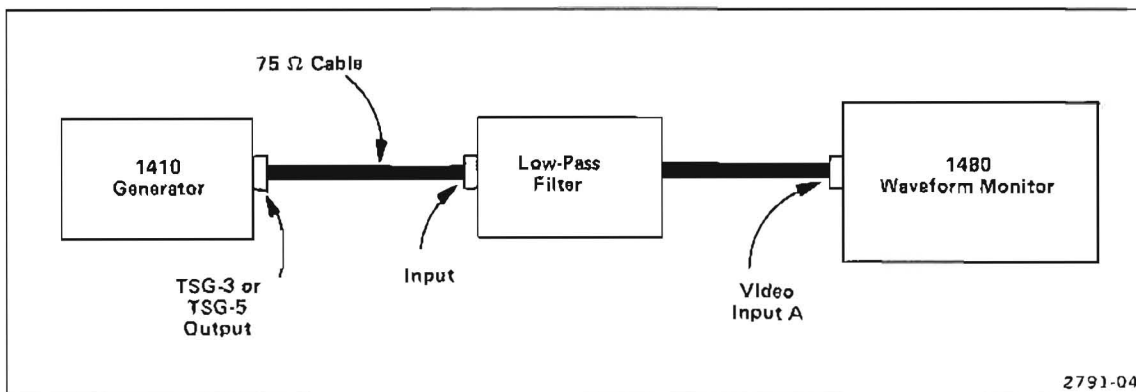

Figure 1. Test setup to check transient response of filter.
- Using equipment listed in Table 4, or equivalent equipment, connect the test setup illustrated in Figure 1.